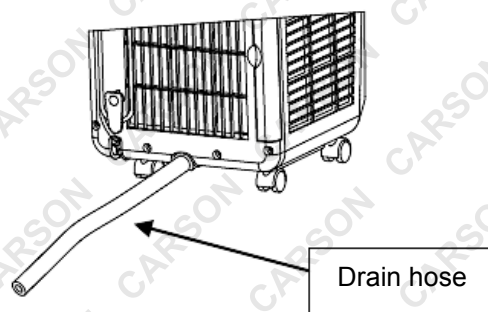

Figure 14
2. Insert the OD 13mm PVC drain hose (8-10mm) into the water outlet (Figure 14).